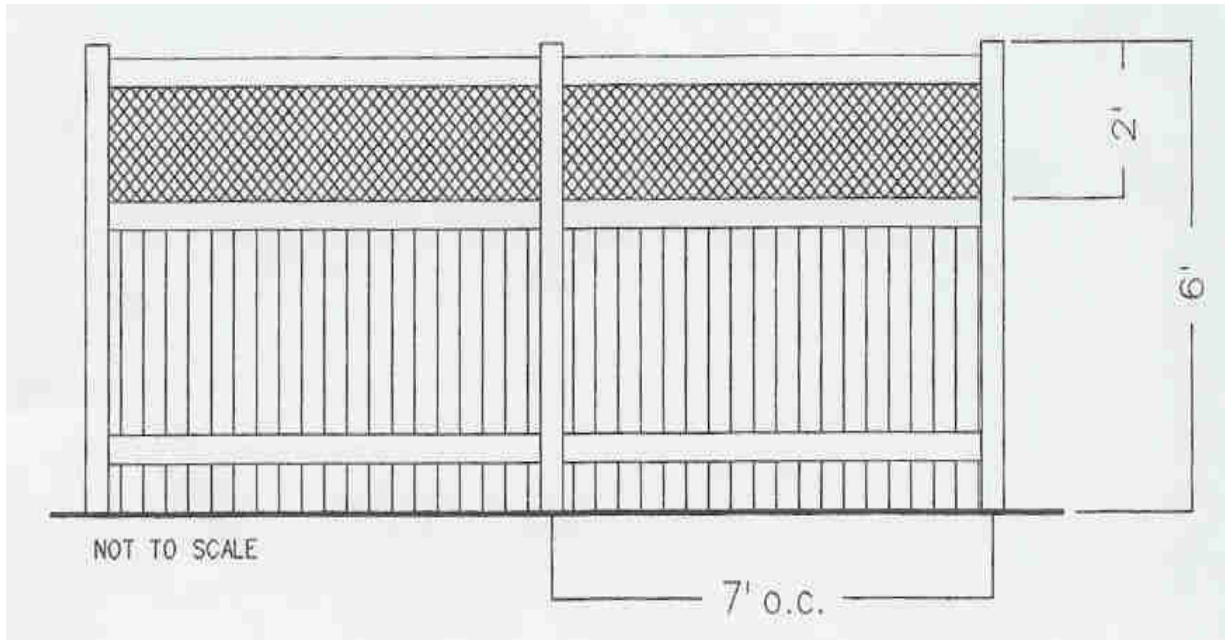

Figure 6 – Privacy Fence Detail
- c. Privacy and screening fences (i.e., hot tubs, patios, etc.) may be constructed with the written approval of the A.R.C. Privacy and screening fences shall be no more than six feet (6') high and shall match general detailing and construction of residence. (See Figure 6).
- d. Privacy Fencing may also be used in the building setback lines of Blocks 10-15. They may not enclose more than 1,000 square feet, or 5% of the lot area. Privacy fencing must be installed at least 18' from all property lines. This six foot (6') privacy fencing will be constructed of white vinyl material and will have the top two (2) feet of fence in a 50% open design as illustrated in the O.D.P.